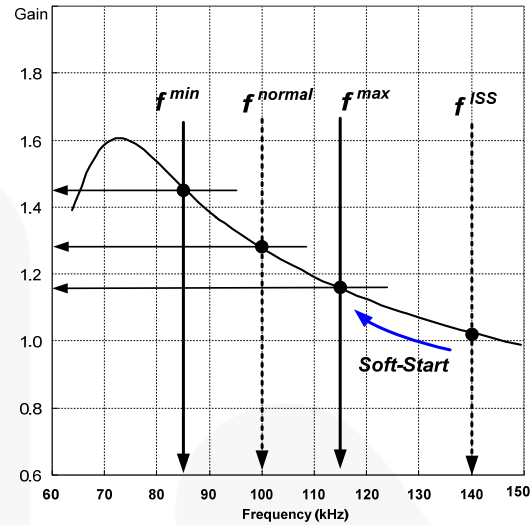
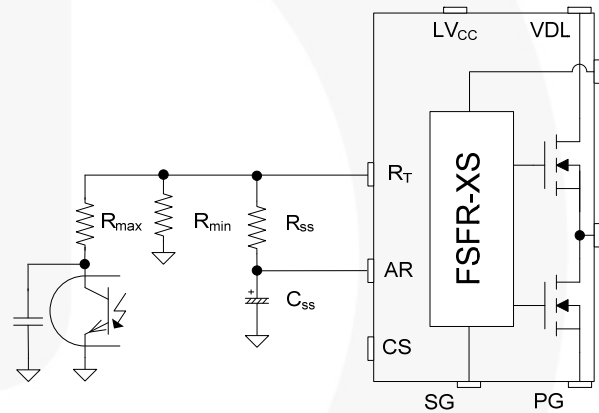
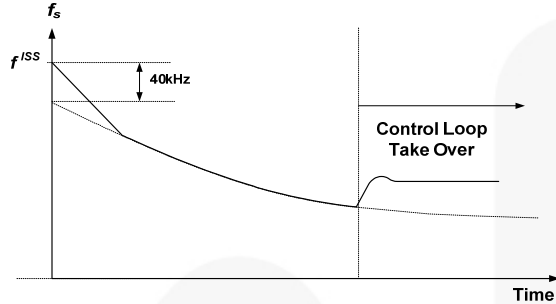

Figure 17. Resonant Converter Typical Gain Curve
Figure 18. Frequency Control Circuit
Figure 19. Frequency Sweeping of Soft-Start
3. Frequency Setting: Figure 17 shows the typical voltage gain curve of a resonant converter, where the gain is inversely proportional to the switching frequency in the ZVS region. The output voltage can be regulated by modulating the switching frequency. Figure 18 shows the typical circuit configuration for the R_T pin, where the opto-coupler transistor is connected to the R_T pin to modulate the switching frequency.
To prevent excessive inrush current and overshoot of output voltage during startup, increase the voltage gain of the resonant converter progressively. Since the voltage gain of the resonant converter is inversely proportional to the switching frequency, the soft-start is implemented by sweeping down the switching frequency from an initial high frequency (f^{ISS}) until the output voltage is established. The soft-start circuit is made by connecting R-C series network on the R_T pin, as shown in Figure 18. FSFR-XS series also has a 3ms internal soft-start to reduce the current overshoot during the initial cycles, which adds 40 kHz to the initial frequency of the external soft-start circuit, as shown in Figure 19. The initial frequency of the soft-start is given as: